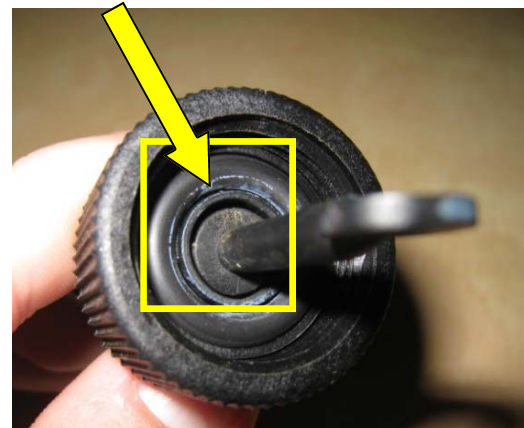

Figure 4
3. Rinse the flow switch with cold water. Ensure that the paddle is clean and free from debris, deposits, or buildup of any type. Pay special attention to the area in the box below and the area where the arrow is pointing (Figure 4). If sediment has built up in this area a possible cause could be debris (Teflon tape, pipe dope, solder, etc.) from the initial installation of the system or sediment in the water supply. If there is sediment in the water supply a water filter should be installed on the line supplying domestic water to the boiler.